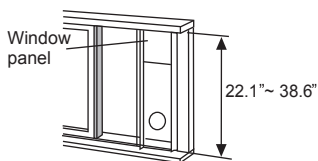

Fig.15
2. Attach the window slider kit to the window stool. Adjust the length of the window slider kit according to the width of window; shorten the adjustable window kit if the width of window is less than 22.1 inches. Open the window sash and place the window slider kit on the window stool. See Fig.15.